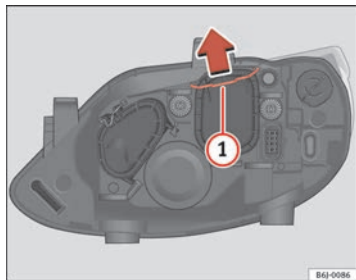

Fig. 137 Dipped beam headlights
- Remove the loop ⇒ fig. 137 ① in the direction of the arrow and remove the cover.